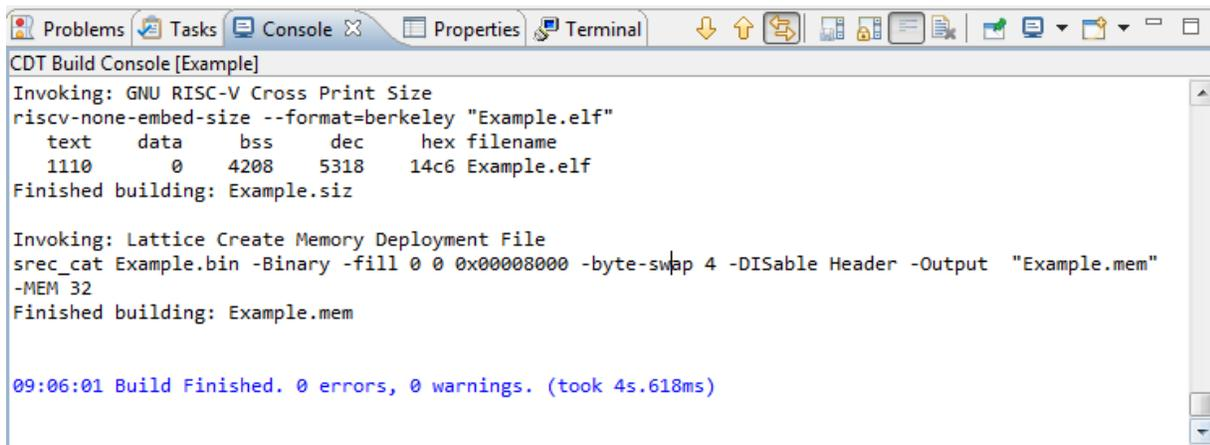

Figure 3.23. Build Result of C Project
4. The results of the build command are displayed in the **Console** view (Figure 3.23).